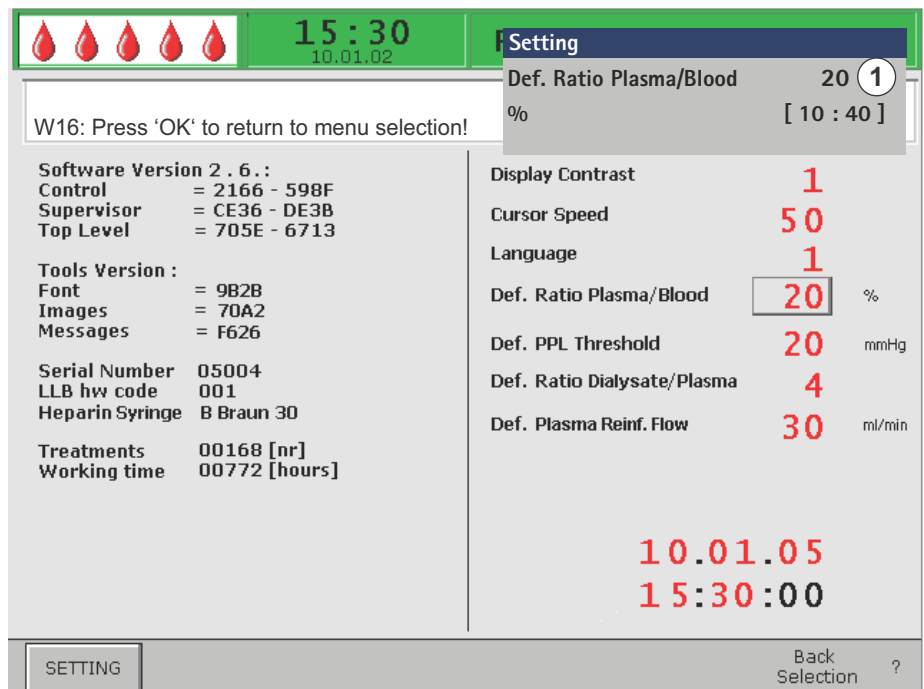

Fig. 3-7 Settings screen - selecting a safety relevant parameter
If a parameter is relevant to patient safety, the currently set value is shown in the *Setting* window above the setting range (Fig. 3-7, ①). In addition, the LEDs above the *OK* key blink.